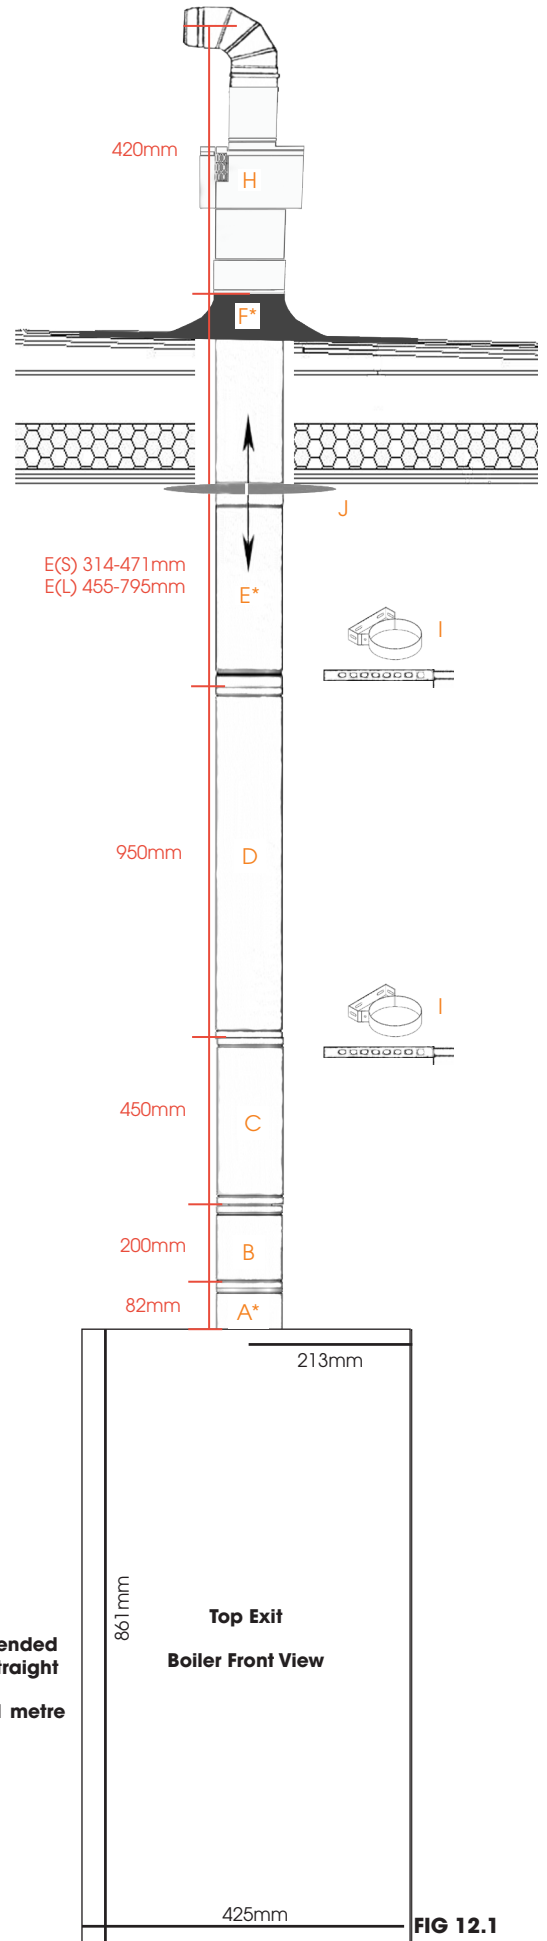

**FIG 12.0**
**A maximum total of 12 metres' in overall length as illustrated in Fig 12.0 & 12.1 is allowed. However, please deduct one metre for each additional 45° elbow used (Maximum of 6).**